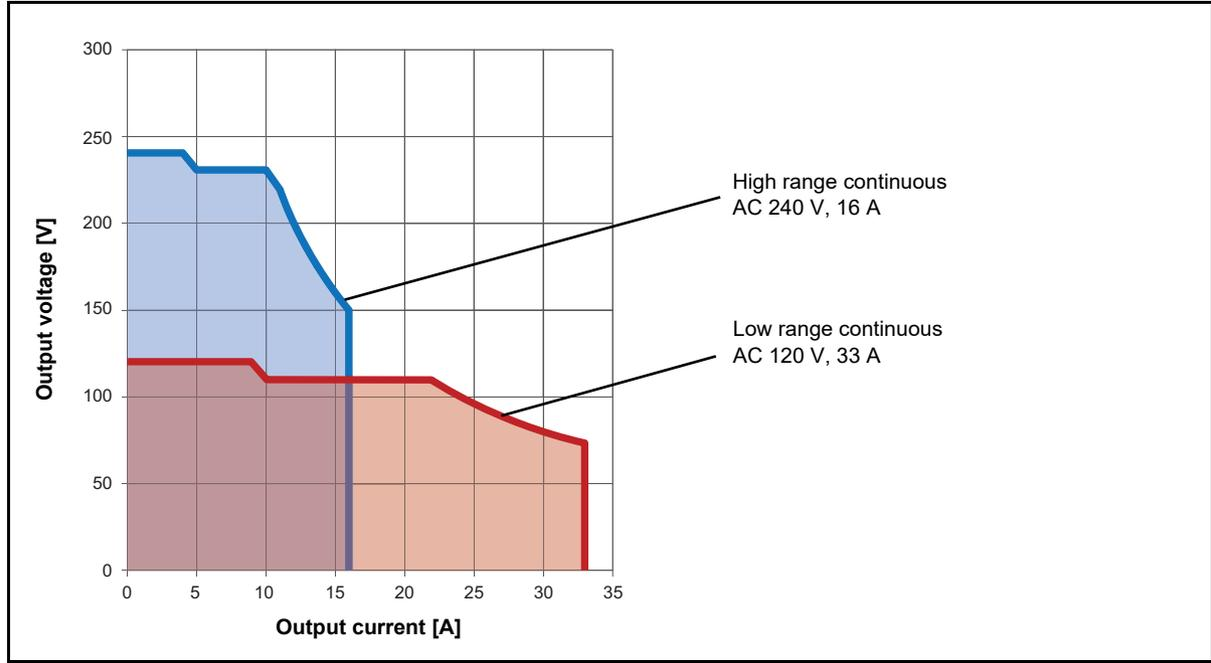

Figure 15-2: Permitted operating range 1 x AC 240 V 16 A
5. See Figure 15-2: "Permitted operating range 1 x AC 240 V 16 A" on page 260
4. See Figure 15-2: "Permitted operating range 1 x AC 240 V 16 A" on page 260